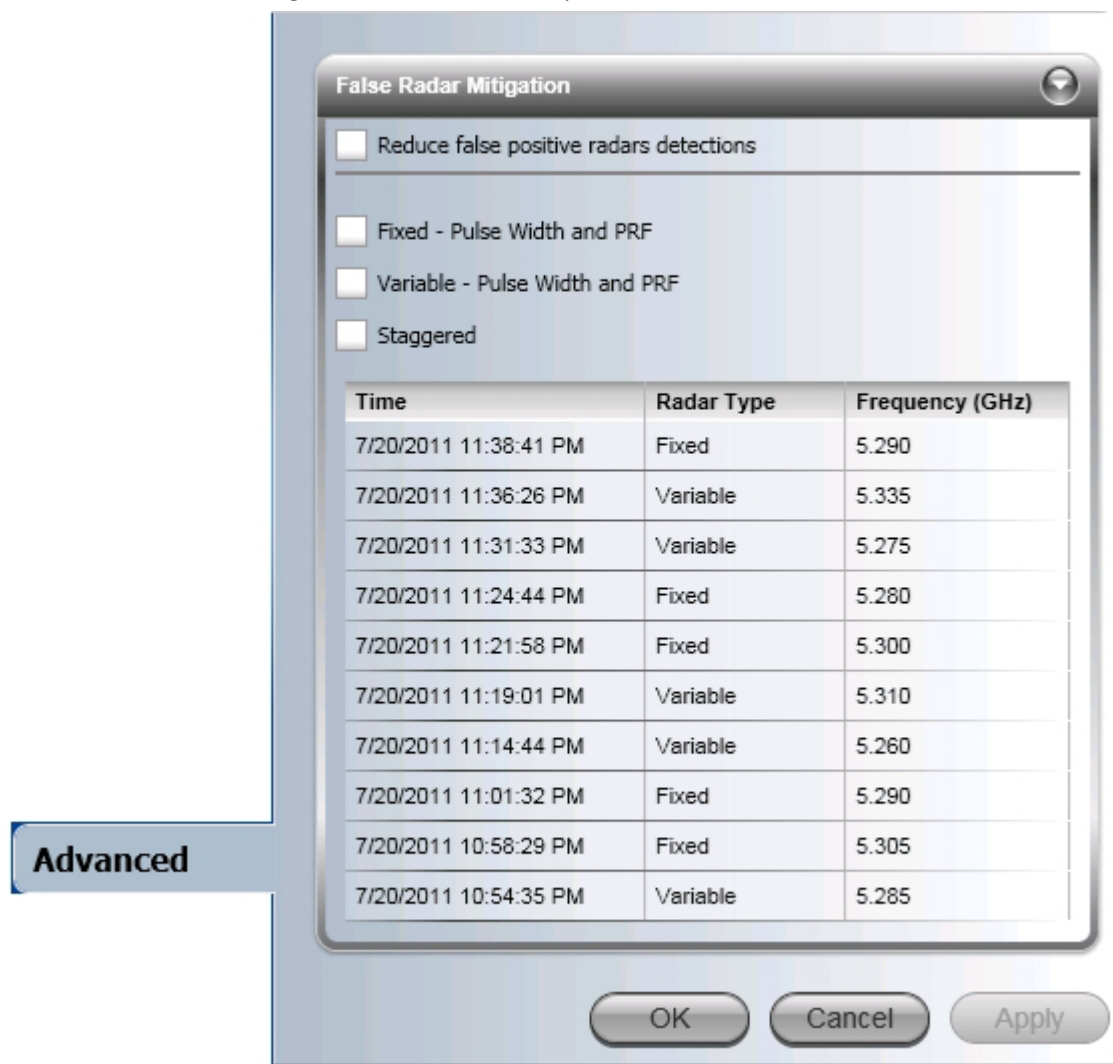

Figure 15-1: False Radar Mitigation
3. The DFS Frequency Status Table at the bottom of Figure 15-1 shows the time, type and frequency of the last radars detected. This table should be used to select the best option(s) to reduce or eliminate false radar detection without completely blocking out real radar detection.